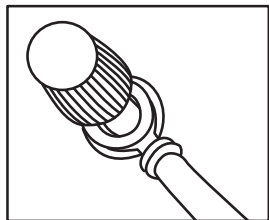

Fig. 1
- Undo the red nut **16** on the power inverter **1**. Guide the red fork eyelet of the cable with 12 V motor vehicle cigarette lighter plug **12** with the opening over the screw connector **7** (see Fig. 1). Make sure that the washer is positioned between the fork eyelet and the nut **16**.
- Undo the black nut **17** on the power inverter **1**. Guide the black fork eyelet of the cable with 12 V motor vehicle cigarette lighter plug **12** with the opening over the 12 V screw connector **8** (see Fig. 1). Make sure that the washer is positioned between the fork eyelet and the nut **17**.
- Undo the red nut **16** on the power inverter **1**. Guide the red fork eyelet of the cable with the red connecting clamp **10** over the 12 V screw connector **7** (see Fig. 1). Make sure that the washer is positioned between the fork eyelet and the nut **16**.
- Undo the black nut **17** on the power inverter **1**. Guide the black fork eyelet of the cable with the black connecting clamp **11** over the screw connector **8** (see Fig. 1). Make sure that the washer is positioned between the fork eyelet and the nut **17**.